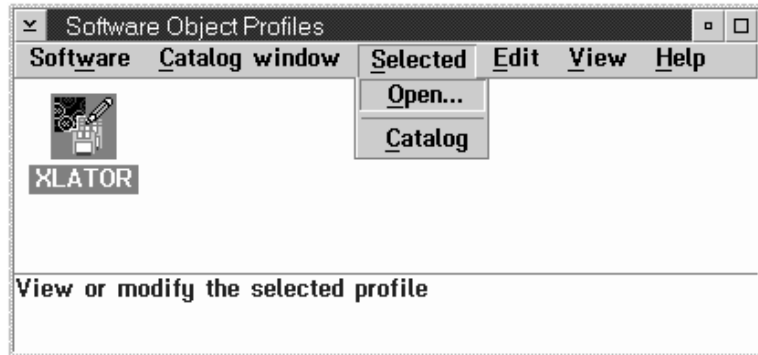

Figure 163. Software Object profile window
- 2 Select **Catalog** from **Catalog** menu bar choice, as shown in Figure 163.